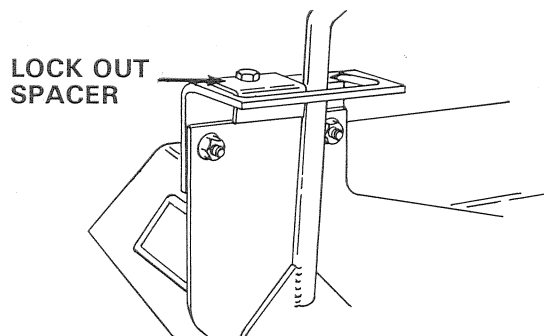

FIGURE 3
5. For use with the hydraulic vacuum or hydraulic cutter, install the lock out spacer so handle can not be moved rearward. Figure 3 shows the lock out spacer installed.